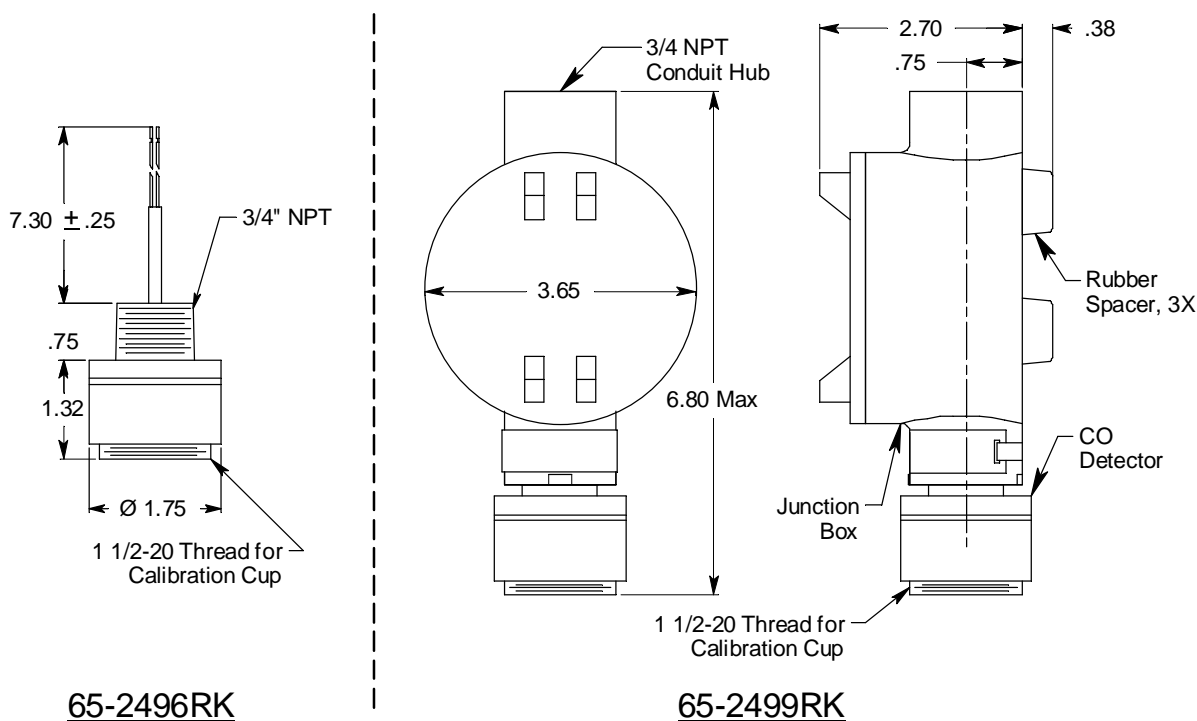

Figure 3: Outline & Mounting Dimensions, 65-2496RK & 65-2499RK
NOTE: If you are installing a 65-2496RK, it does not include a junction box and is usually factory installed in one of a controller's conduit hubs or may be field installed using the 3/4" NPT threads on the end with the wires. The 65-2499RK includes a junction box as shown in Figure 3 below.
2. At the mounting site you select, hang or mount the junction box with the detector facing down (see Figure 3).
CAUTION: Mount the CO detector with the detector facing down (see Figure 3.)